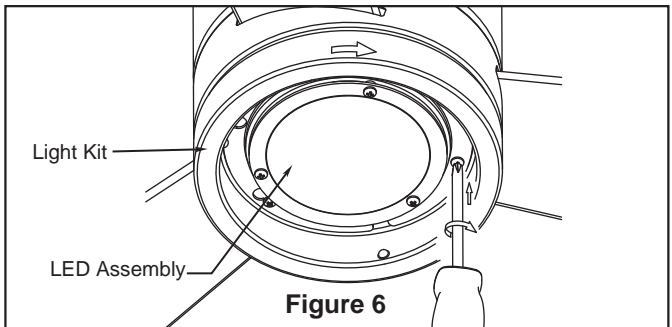

Figure 6
6. Route wires through motor coupling cover, canopy screw cover and ceiling canopy. (Figure 6)
- 6. Assemble the LED assembly to the light kit using the two key slots. Replace the removed screw from Step 3 and secure all three screws. (Figure 6)